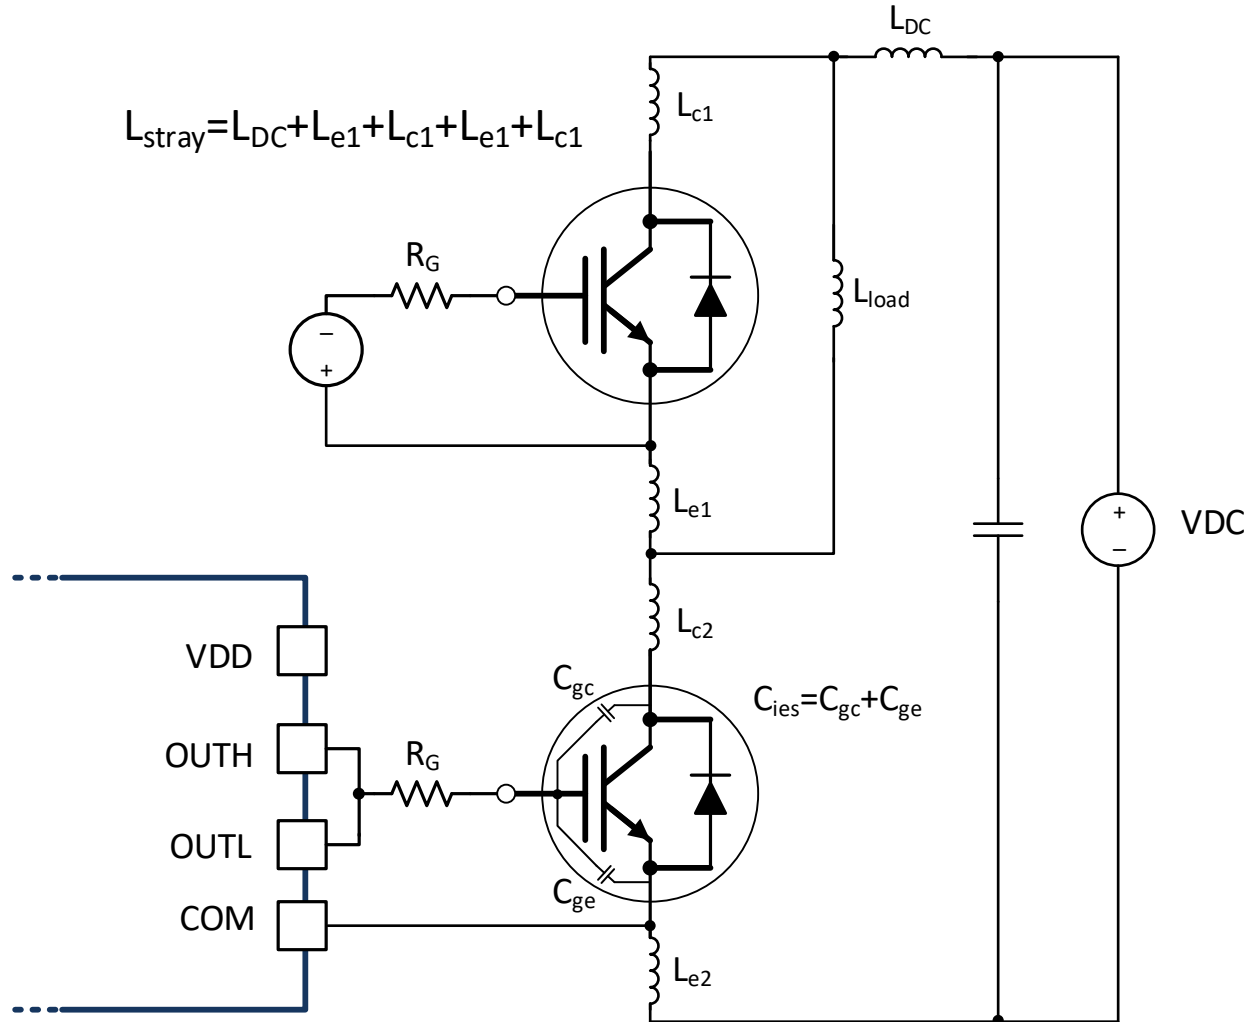

図 8-6. Stray Parasitic Inductance of IGBTs in a Half-Bridge Configuration
- L_{stray} is the stray inductance in power switching loop, as shown in FIG 8-6